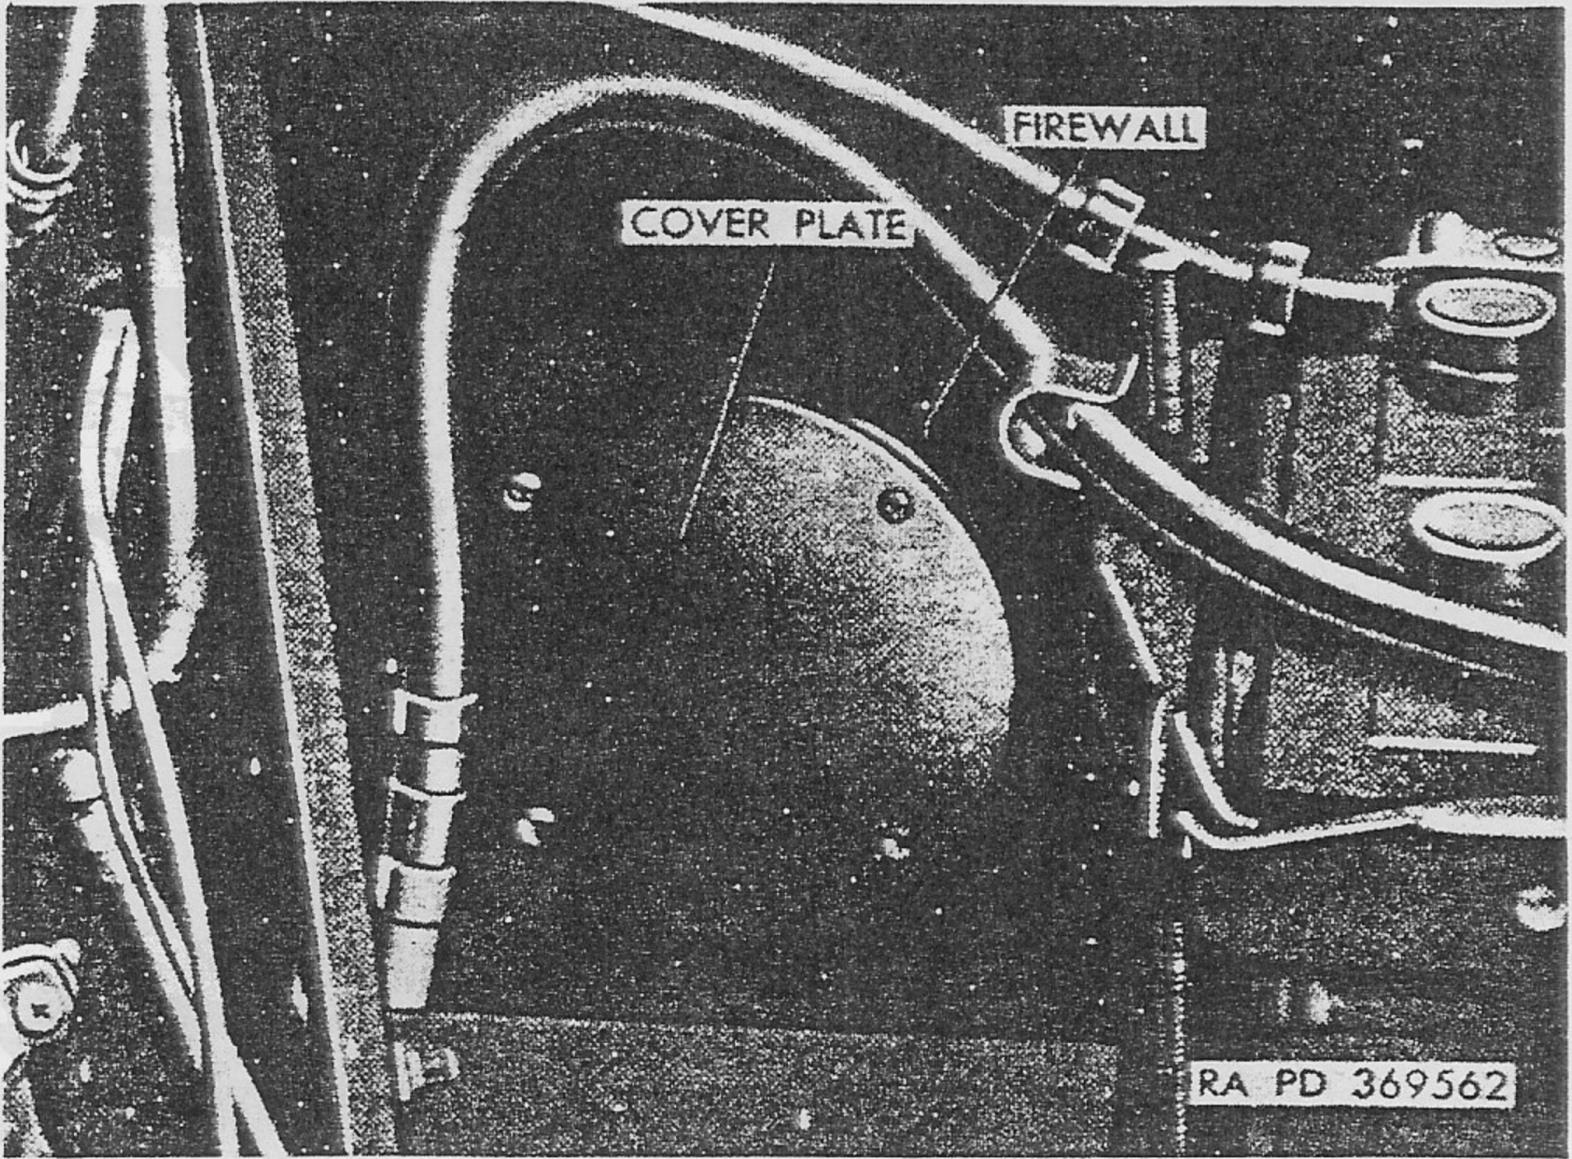

Figure 8. Heater outlet cover plate.
b. Remove four screws, nuts, and washers which attach cover plate (fig. 8) over opening in firewall. Install adapter elbow (PP,